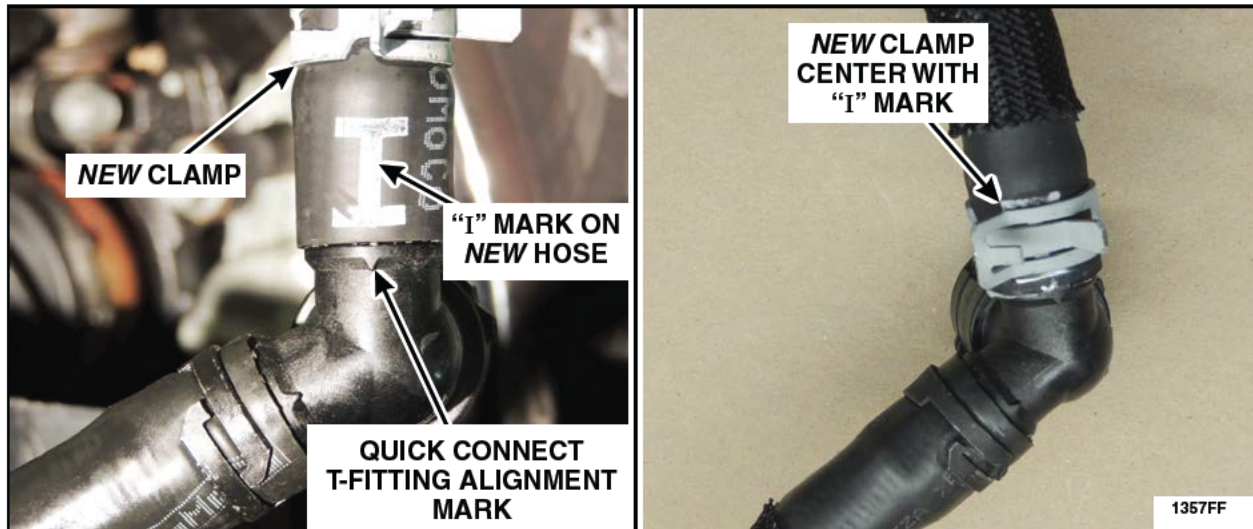

FIGURE I7
12. Position a *new* clamp onto the longer section of the *new* degas bottle hose and install the hose onto the quick connect T-fitting. Ensure the "I" mark on the *new* degas bottle hose is aligned with the alignment mark on the quick connect T-fitting. Also align the clamp center with the "I" mark. See Figure I7.